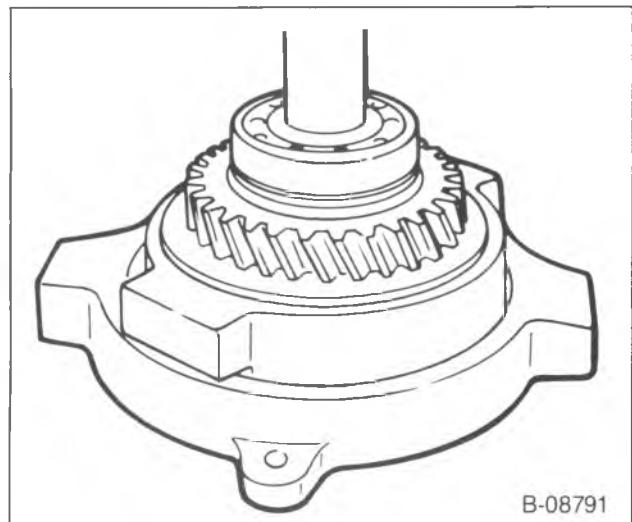

Figure 8—Pressing the Mainshaft through the Bearing
5. Rear bearing (415) and the 1st speed gear (414).
- Press the mainshaft through the bearing and the gear (figure 8).
7. Remove the snap ring and the 1st and 2nd synchronizer (412).
8. Remove the 2nd speed blocker ring and the 2nd speed gear (410).